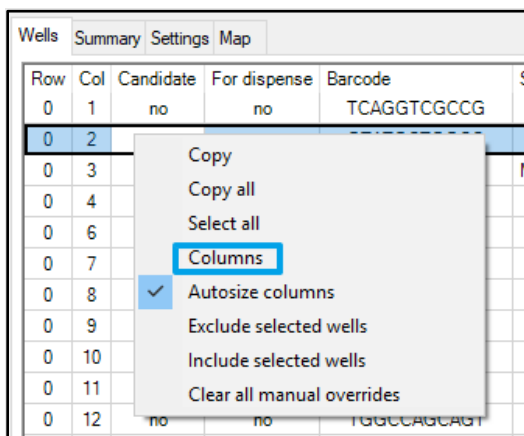
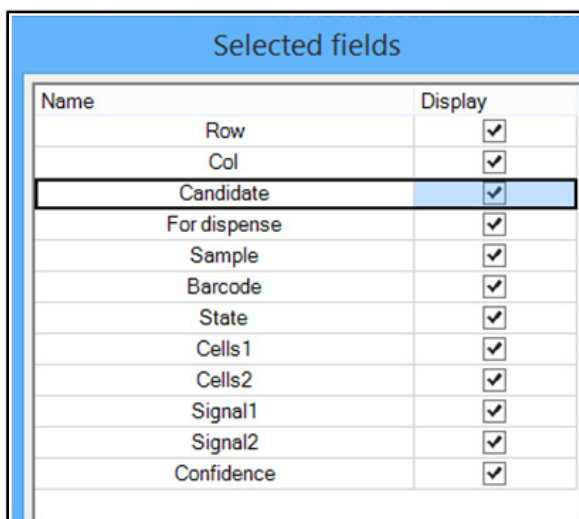

Figure 39. Example right-click menu.
Figure 40. Column heading options.
**Right-click:** CellSelect Software makes liberal use of the right-button mouse click to offer context-specific menu options. In Figure 39 (below), the example menu shown will pop up when right-clicking while hovering over any of the cells with data values.
**Column display:** On several data and analysis screens, you can choose the information to be displayed by right-clicking anywhere within the table (not in the column headers) and choosing **Columns** (see Figure 39, above). This action will open a *Selected fields* window with checkboxes next to the information categories (see Figure 40, below). Click the checkboxes to select or deselect the columns that you want to display or hide. These selections will be remembered the next time the program starts.